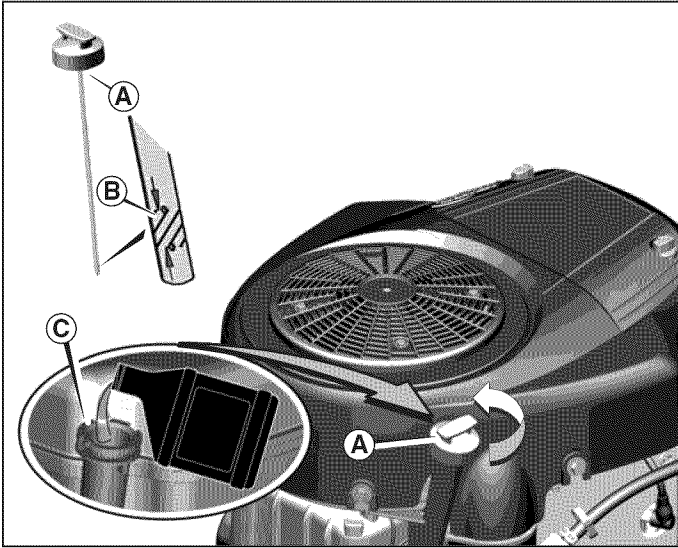

Figure 5
1. Remove the dipstick (**A**, Figure 5) and wipe with a clean cloth.